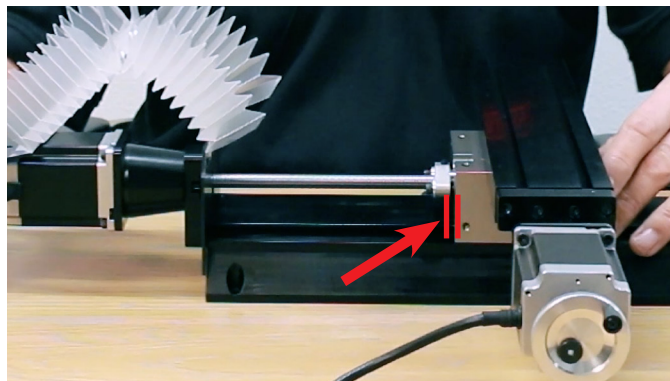

FIGURE 7—The two red lines indicate the gap between the ball nut and the saddle. This gap allows space for the saddle cover plate.
6. Now use the handwheel to move the ball nut away from the saddle, so you have a space to put the rear cover plate over the screws. Flip the cover back over to align the slots in the front saddle cover plate with the ball nut screws (see Figures 7 and 8). If you push the cover plate down too hard, you are most likely going to have a section of the way cover mounting plate rubbing on your base. We'll address this in the coming steps.